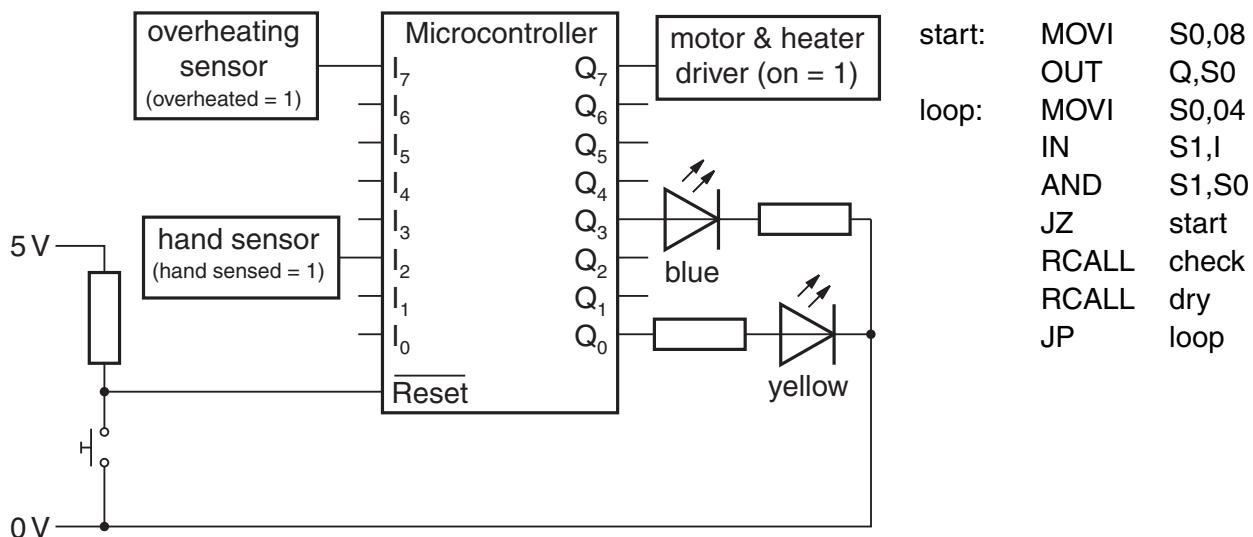

Fig. 4.1
- 4 Fig. 4.1 shows the circuit and main program for controlling an electric hand drier.
- (f) State and explain what happens to the output devices of Fig. 4.1 when the switch is pressed and released.